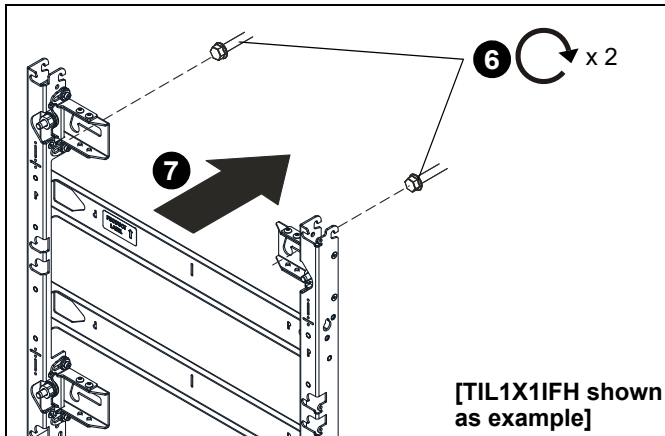

Figure 6
6. Partially install two lag screws into wall, but do NOT completely tighten to wall. (See Figure 6)
7. Hang wall mount, aligning upper mounting slots over fasteners, and adjust side-to-side for proper location. (See Figure 6)